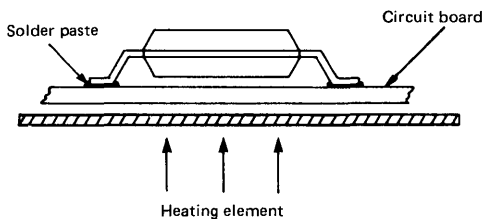

Fig. 7 Diagram showing reflow-system soldering
- (1) Use a reflow method such as that in Fig. 7 to keep the temperature as low, below 260°C, as possible and the time as short, less than 10 seconds, as possible.